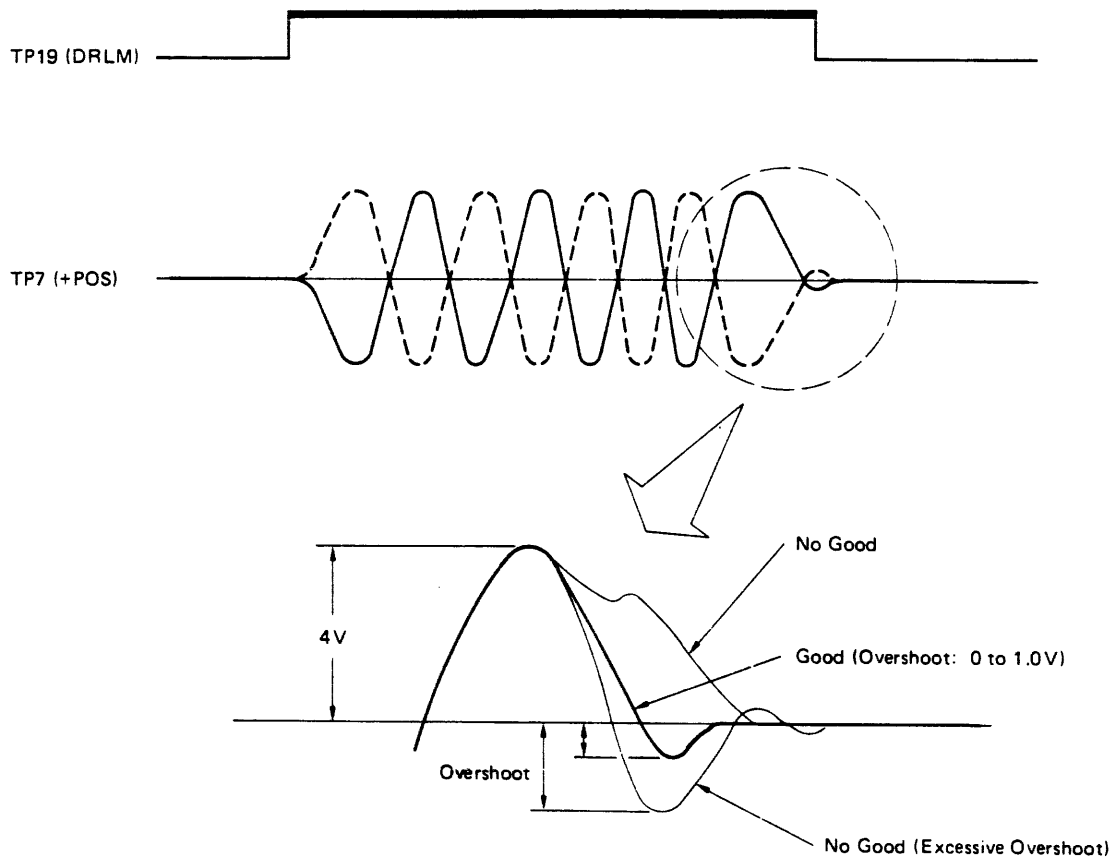

Figure 6-6-8 Overshoot Adjustment
- (1) Confirm that unit has normal status.
- (2) Issue the alternate seek command between Cylinder 0 and 8 repeatedly.
- (3) Connect the test point TP19 (DRLM) to an oscilloscope and trigger with the positive going edge at the signal (DC coupled).
- (4) Connect the test point TP7 (+POS) to the other channel at the oscilloscope (DC coupled).
- (5) Adjust the Position Signal transient (overshoot) to linear mode with a potentiometer RV4 according to Figure 6-6-8.